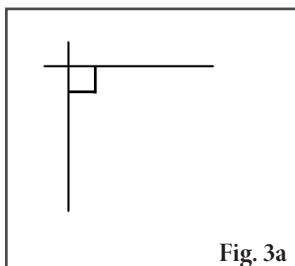
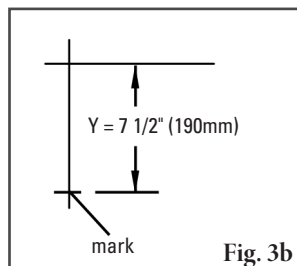
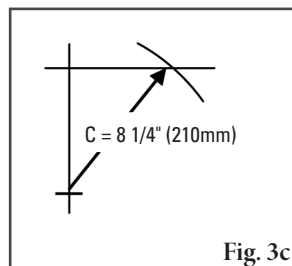

Fig. 3a
Fig. 3b
Fig. 3c
3. **Determine final dimension.** On a flat vertical surface, using a level, draw one horizontal line and one vertical line, creating a right triangle (Fig 3a). Measure down from the intersection the determined “Y” dimension and mark (Fig 3b). With the tape measure starting at the modified “Y” mark, swing the tape across the “X” line and mark at the “C” dimension where it crosses the “X” line (Fig 3c). Measure from the intersection to the “C” intersection and this will be your new “X” dimension (Fig. 3d).
4. **Install the pole.** Remove both blade pins and blade from the pole (Fig. 3) and insert the pole in through the mounting plates (Fig. 3a).